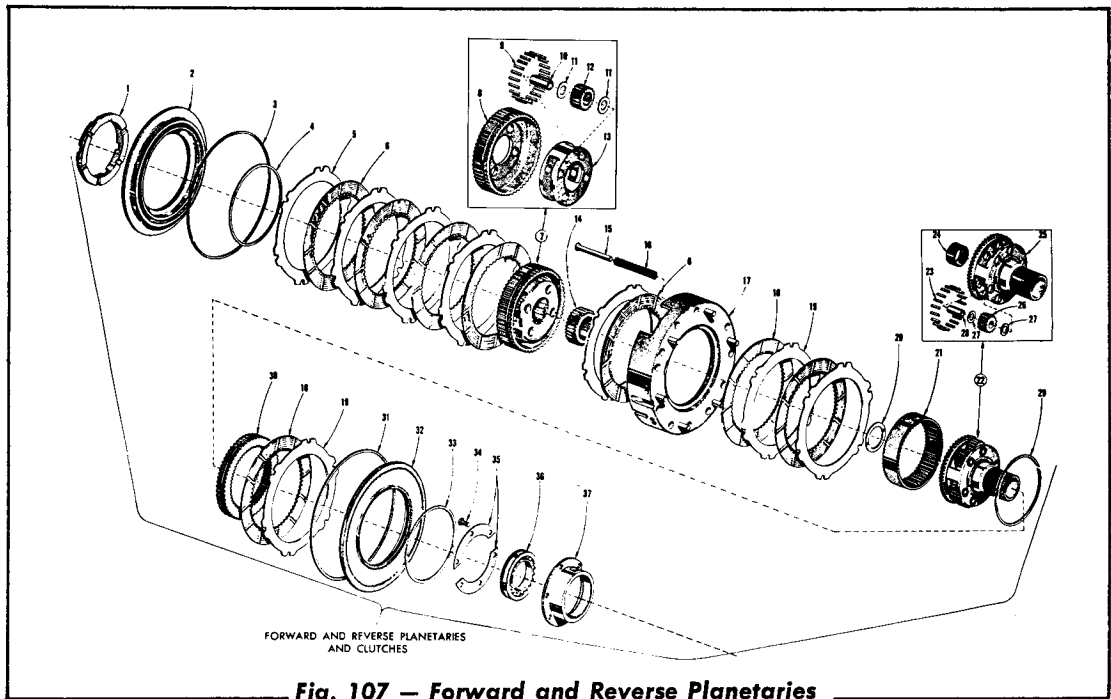
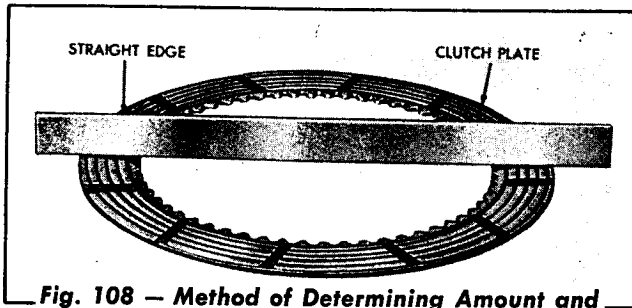
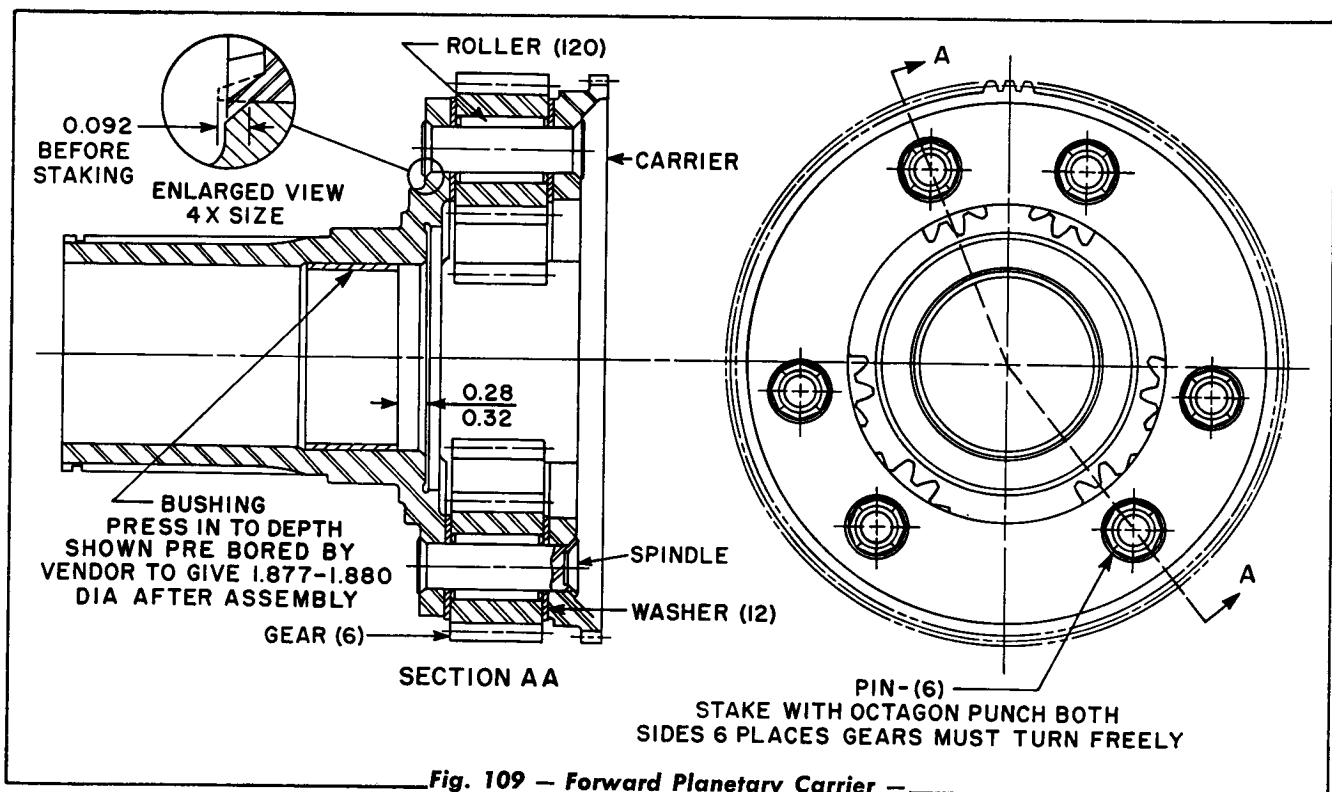

Fig. 107 — Forward and Reverse Planetaries and Clutches — Legend
Fig. 108 — Method of Determining Amount and Direction of Clutch Plate Cone
Fig. 109 — Forward Planetary Carrier — Cross Section
All items, except 7 and 22, Fig. 107, are disassembled in Par. B, in this Topic.
2. Reverse Planetary Carrier, Disassembly (Fig. 107)
- a. Using a drill of slightly smaller diameter than the outside diameter of the planetary spindle pin (10), drill a hole in one end of each pin to weaken the staking.
- b. Press on the drilled end of each pin (10) to remove them from the planetary carrier (13) and the planetary hub (8).
- c. Remove the pinion rollers (9), the thrust washers (11), and the planetary pinions (12).
3. Forward Planetary Carrier, Disassembly (Fig. 107)
- a. Remove the snap ring (29) and separate the reverse ring gear (21) from the carrier assembly (22).
Refer to Topic 4 for cleaning and inspection. All clutch plates should be inspected to determine the amount and the direction of cone. Place the plate on a flat surface and lay a straight edge across the plate (Fig. 108). Measure the amount of cone by placing a thickness gauge between the straight edge and the inside diameter of the plate. When assembling the plates, be sure that the cone of each plate is installed in the same direction. Refer to Fig. 107 for wear limits.
5. Forward Planetary Carrier, Assembly (Fig. 107)
- a. If the bushing (24) was removed, press in a new bushing to the depth shown in Fig. 109.
- b. Grease the pinion thrust washers (27) and install one on one end of each planetary pinion (26).
- c. Grease the bores of the planetary pinions (26) and install twenty pinion rollers (23) into each pinion. An aligning tool placed in the bore of the pinion will facilitate this
- d. Install, as a unit, the pinions, the rollers, and the washers into the planetary carrier (25).
- e. Align the bores in the pinions with the bores in the carrier and press the planetary spindle pins (28) into the carrier (25) to the dimensions shown in Fig. 109. Stake both sides of each spindle pin with an octagon punch. Check each pinion after staking it to see that they rotate freely.
- f. Install the reverse ring gear (21) onto the forward planetary carrier assembly (22) and secure it with the snap ring (29).
6. Reverse Planetary Carrier, Assembly (Fig. 107)
- a. Grease the pinion thrust washers (11) and install one on one end of each planetary pinion (12).
- b. Grease the bores of the pinions (12) and install twenty-two pinion rollers (9) onto each pinion. An aligning tool placed in the bore of the pinion will facilitate this installation. The tool can be made by grinding a discarded spindle pin to 0.005" undersize. Install a pinion thrust washer (11) on the other end of each planetary pinion (12).
- c. Install, as a unit, the pinions, the rollers, and the washers into the planetary carrier (13).
- d. Align the bores in the pinions with the bores in the carrier and planetary hub (8) and press new spindle pins (10) into the carrier